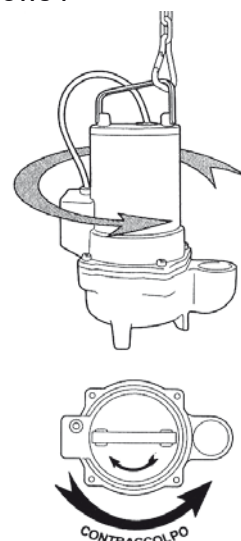

Fig. 9
- The correct direction is indicated by arrows on the electric pump cover and pump body. If the kick-back has been anticlockwise viewing the electric pump from above, then the rotation direction is correct - (fig 9)